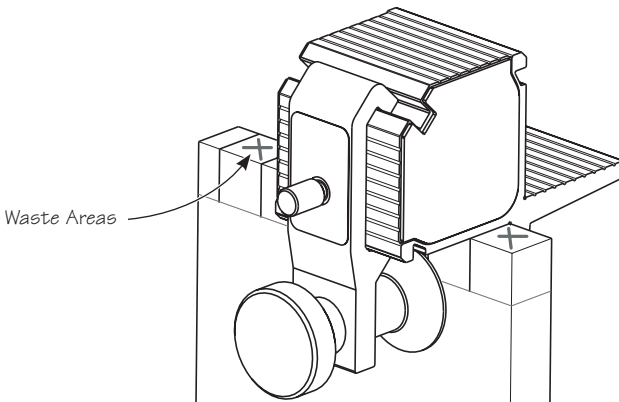

Figure 8: Saw guide set for cutting fingers.
7. Place the guide on the end of the board such that the **waste area is exposed**. The guide should be placed right on the mark (see **Figure 8**) to ensure that the saw is always cutting waste wood. Notice that the mark the guide needs to be placed on is the point where the mark crosses the **edge** of the board.